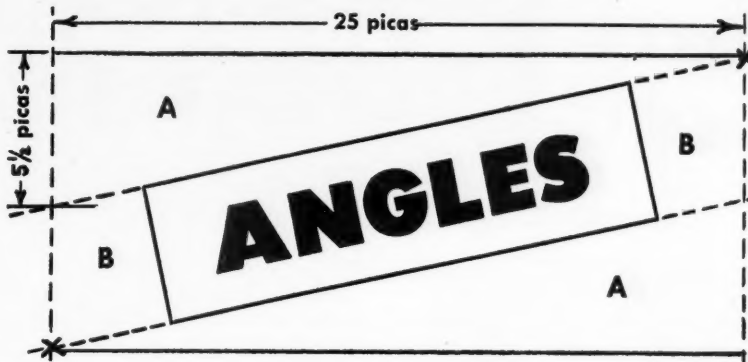

Figure 5
7. Two of the four blocks will form the proper pieces for A (see Figure 5). The two remaining pieces which will be used to make B are treated in this manner: Remove the sharp point. This is done by placing the wood with the right angle resting against the set gauge (Figure 8, center). Angle blocks B do not have to make the full width as indicated in figure 5. Set the gauge to about 23 picas and saw off the tip of the two blocks. Now, using the side where the tips were cut off as a guide, place it on the saw and set the gauge to the depth desired (Figure 8, bottom). The depth is figured to be exactly the same as the depth of the rules around the word "angles"—5 picas (Figure 5). In other words, angle blocks B are always cut in such a manner so that they will be contained within angle blocks A. The reason for this is to prevent binds which are caused by cutting angles to sharp points. If angles B are not wide enough, it is possible to build up to the 25-pica width by using 5-pica slugs or leads as the case may be. In fact, this is desirable because there is room for movement if it is found necessary.